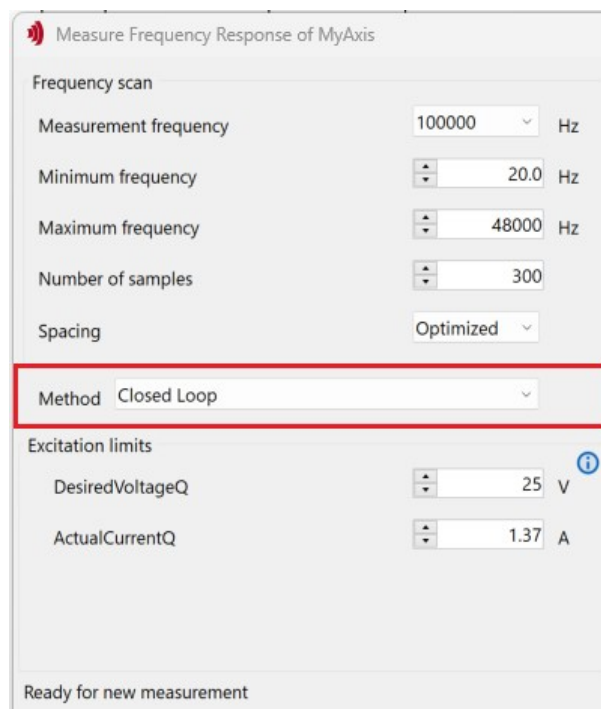

Figure 11: For sensorless the measurement method needs to be set to "Closed Loop".
3. Set the Method to **Closed Loop** or **Closed Loop – Integrator off** (Figure 11) then configure the measurement settings.